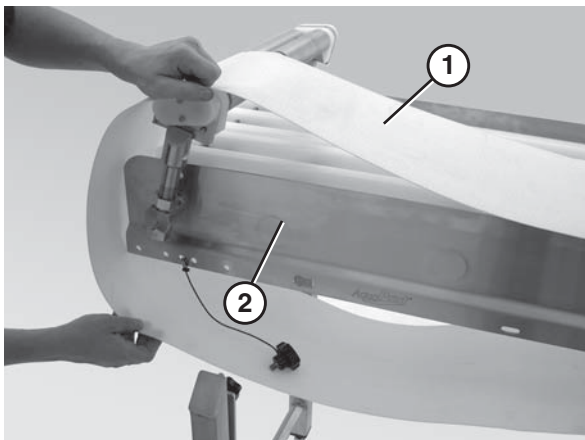

Figure 44
3. Slide the old belt (Figure 44, item 1) off the conveyor frame (Figure 44, item 2).